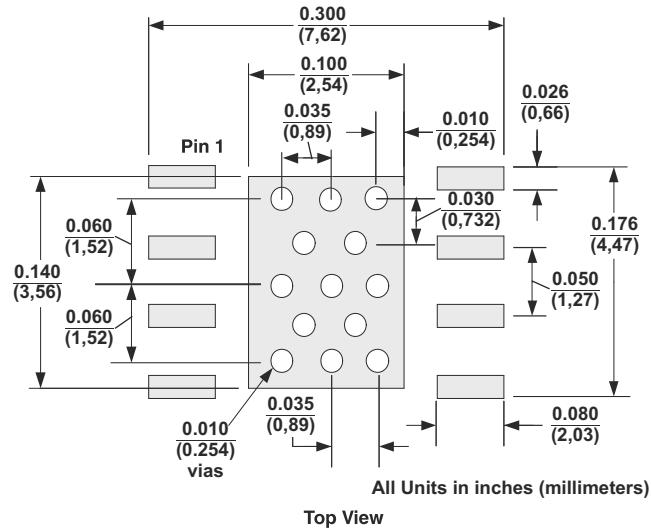

Figure 11-7. DDA PowerPAD PCB Etch and Via Pattern
1. PCB with a top-side etch pattern is shown in Figure 11-7. There should be etch for the leads as well as etch for the thermal pad.